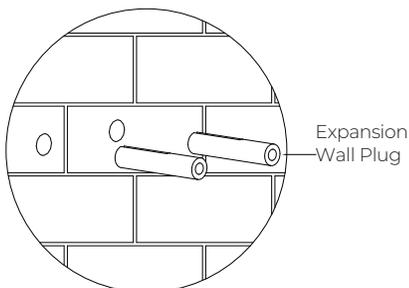

Fig. 3-14-3
- b. Hammer the expansion wall plug into until it's flush with the wall. See fig. 3-14-3.